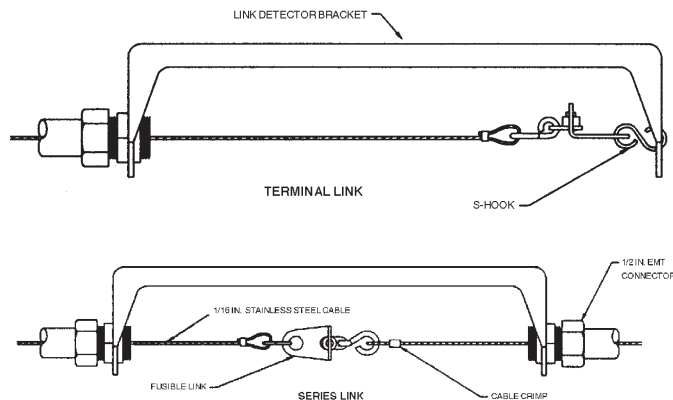

FIGURE 12
The Model FLK-1 fusible link kit includes a 10 in. steel bracket, two (2) 1/2 in. EMT connectors, two (2) cable crimps, and two (2) "S" hooks. Fusible links must be ordered separately. See Figure 12.